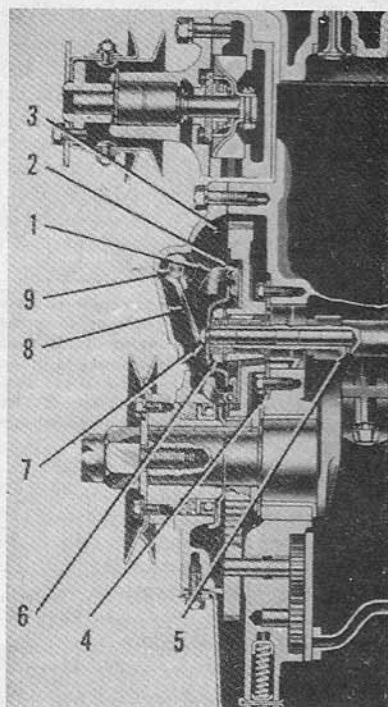

Fig. F11—Models TE20 and TO20 governor and camshaft gear installation. Governor weight overhaul requires removal of timing gear cover. Model TO30 is similar.
20. To remove camshaft, first remove the camshaft gear, as outlined in preceding paragraph. Remove the ignition distributor, rocker arms and shaft assembly and engine oil pan. Remove push rods and block up or support tappets (cam followers). Remove camshaft thrust plate (4—Fig. F11) from front of cylinder block and withdraw the shaft from the engine.